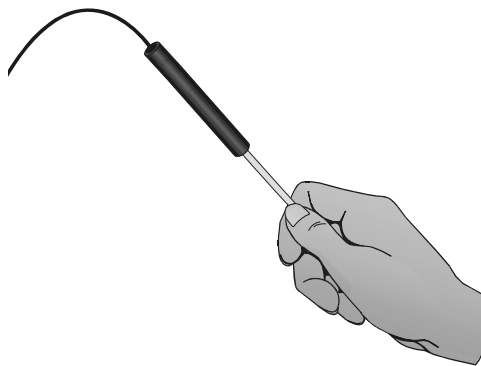

Figure 2
- a. The first test subject should pick up the Temperature Probe and hold its tip in the palm of his or her hand, as shown in Figure 2. Watch the live temperature readout.